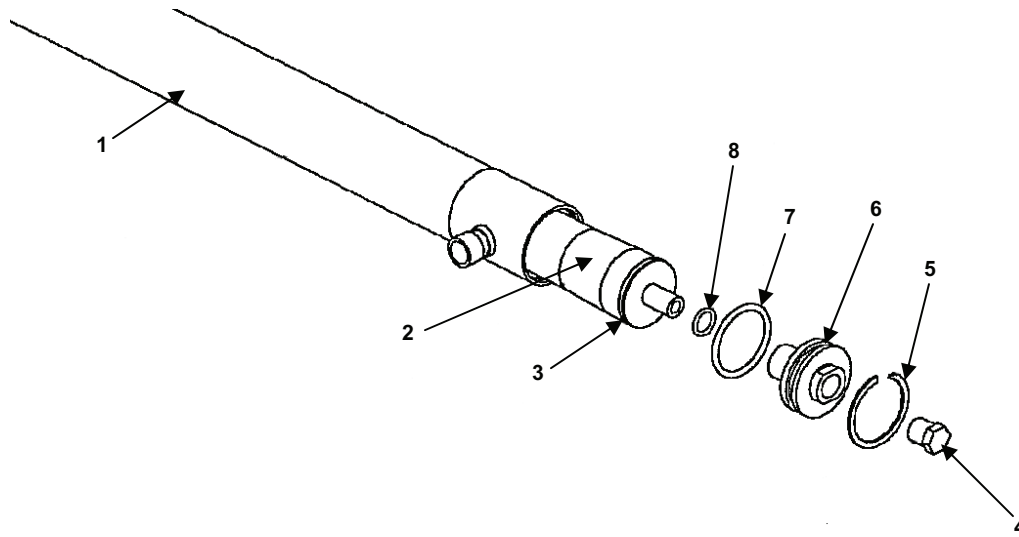

Figure 6. Membrane Removal/Installation.
6. The RO membrane (Figure 6, Item 2) is now visible and ready for removal.
7. Remove the RO membrane (Figure 6, Item 2) from the pressure vessel (Figure 6, Item 1).
8. Remove large O-ring (Figure 6, Item 7) from outer groove on end cap (Figure 6, Item 6). Remove small O-ring (Figure 6, Item 8) from inner groove in end cap (Figure 6, Item 6).
Inspect the O-rings (Figure 6, Item 3, 7 and 8) for any sign of damage, deterioration, cuts, etc. Replace if unserviceable.
1. Lubricate the O-rings (Figure 6, Item 7, 8, 3) with Dow Corning 111 Lubricant, to facilitate assembly.
2. Install large O-rings (Figure 6, Item 7) on end caps (Figure 6, Item 6). Install small O-rings (Figure 6, Item 8) inside the end caps (Figure 6, Item 6).
3. Install RO membrane (Figure 6, Item 2) in the direction of flow. Observe arrows on both ends of the pressure vessel.
4. Insert the RO membrane (Figure 6, Item 2) into the pressure vessel (Figure 6, Item 1) from the end marked "Load membrane this end".
7. Install retaining ring to secure the end cap (Figure 6, Item 5). Ensure there retaining ring is seated inside the groove.
8. Install the hex pipe plug (Figure 6, Item 4) or see next section for installation of sampling valve.